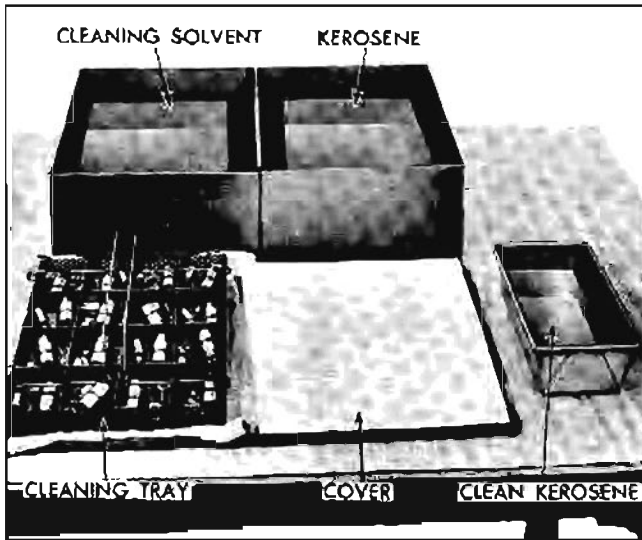

Fig. 6-87 Lifter Wash Tank and Tray J-5821
3. Drain oil out of lifter body and place all valve lifter parts in separate compartment of tray from Wash Tank J-5821 (Fig. 6-87).
5. Wipe out tank cover and place tray of parts on cover in front of tank (Fig. 6-87). A shop towel under tray and clean paper on remainder of cover will enhance cleanliness.